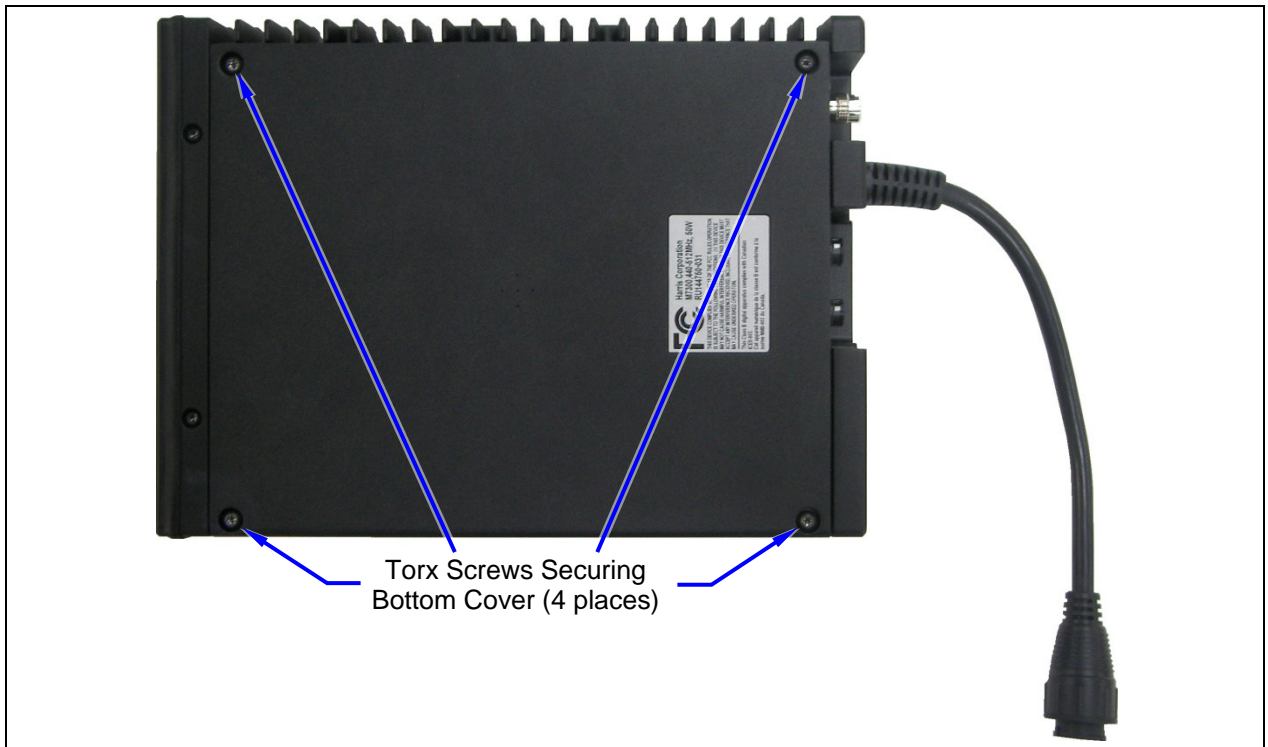
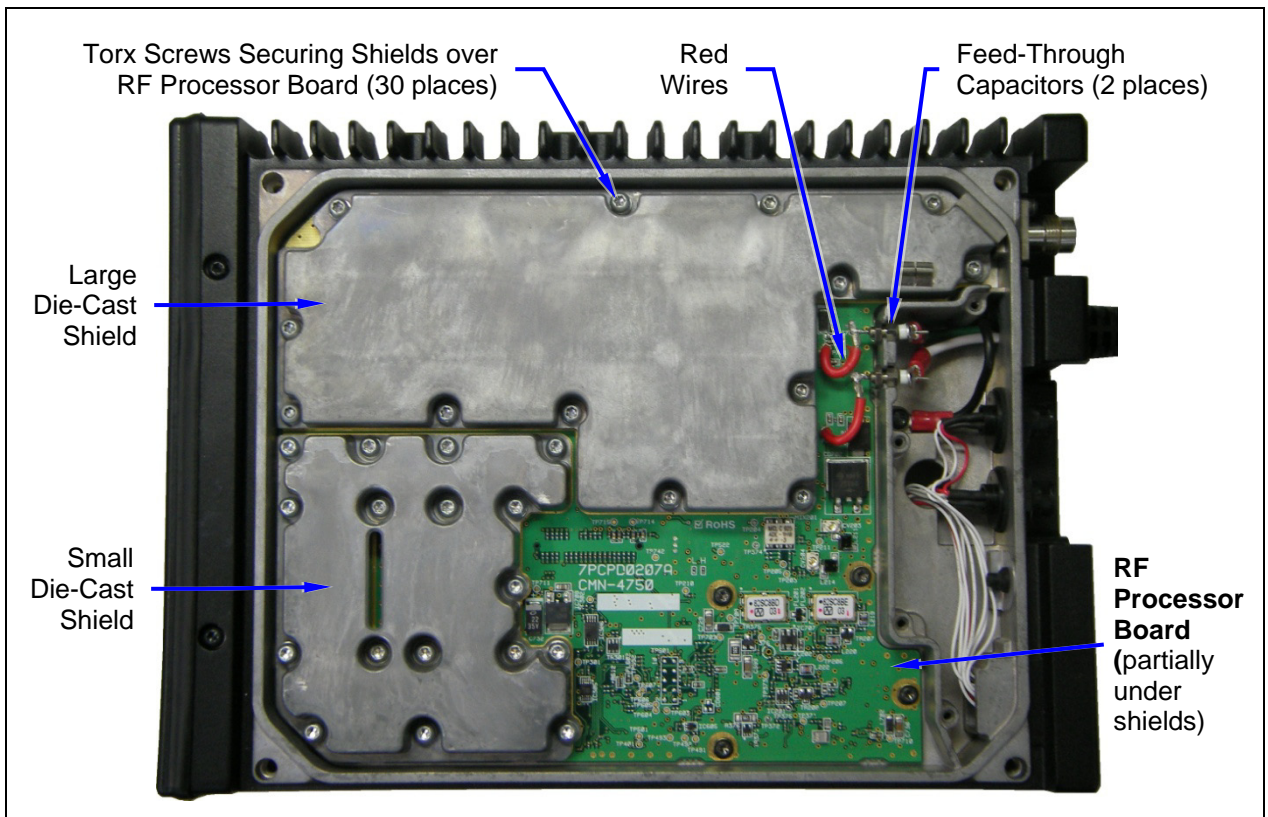
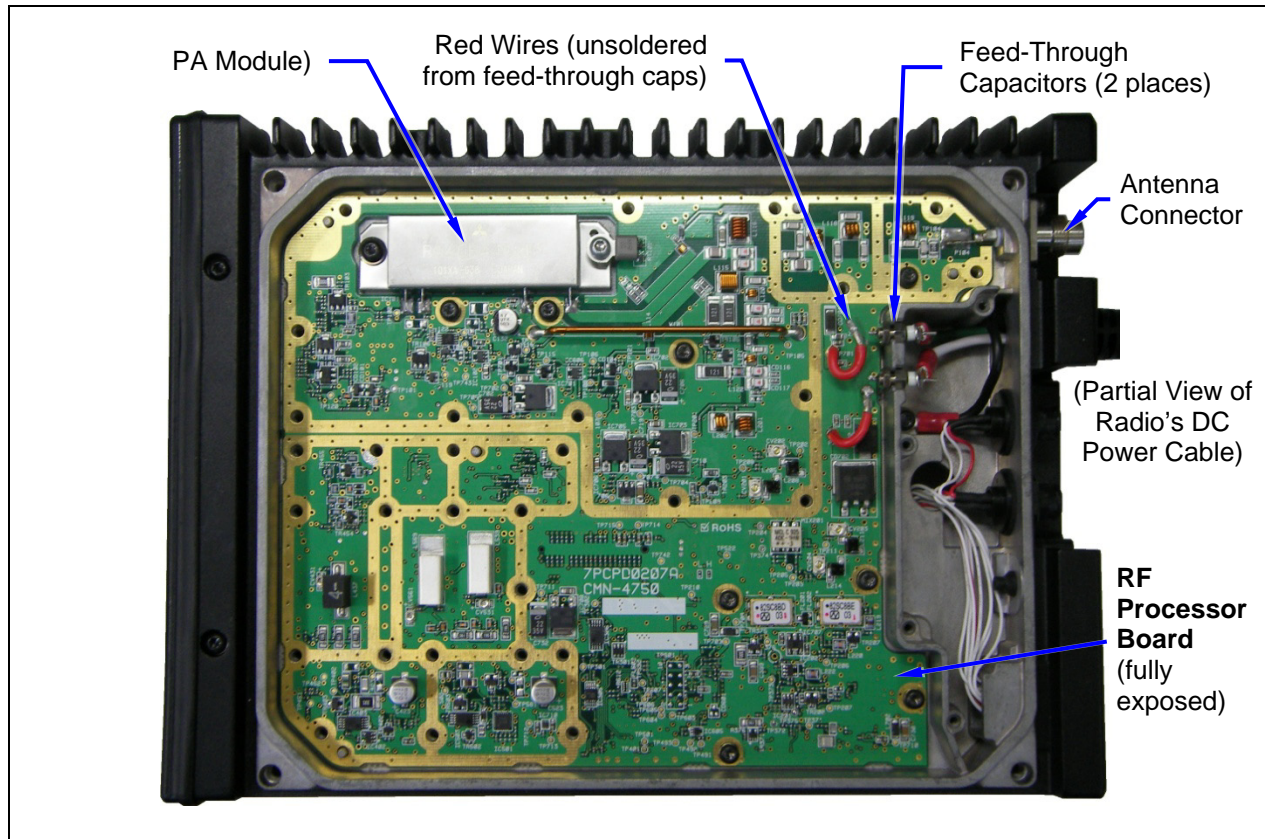

Figure 12-3: Removing the Bottom Cover
Figure 12-4: Removing the RF Processor Board
Figure 12-5: Removing the RF Processor Board
1. Lay the radio on a flat ESD-safe surface, in a bottom-up position. See Figure 12-3.
2. Using a T15 Torx screwdriver, loosen the four (4) captive screws securing the bottom cover to the radio. These are captive-type screws, so complete removal from the cover is not required.
4. Near the rear of the chassis, carefully unsolder the two (2) red wires from the two feed-through capacitors. See Figure 12-5. These two wires are soldered to pads P701 (the "IGNITION" switched power DC input) and P702 (the "A+" main power DC input) of the PK Board.
5. Using a T10 Torx screwdriver, loosen and remove the thirty (30) screws securing the two (2) die-cast shields.
6. Start but do not tighten eight (8) **10-millimeter-long** T10 Torx-head screws into the threaded holes of the chassis. For the locations of these holes, refer to Figure 12-5 (i.e., screws are shown installed in the figure). Be sure to use the correct screws, as screws that are too long will damage the PK Board in the opposite cavity of the chassis.
9. Torque these ten (10) screws to 7.4 inch-pounds (8.5 kg/cm).
10. Carefully install the antenna connector into its hole in the rear panel and secure it to the rear panel using two (2) screws. Torque these two screws to 4.3 inch-pounds (5.0 kg/cm).
12. Carefully lay the two (2) die-cast shields into the casting.
13. To secure the shields, first start but do not tighten all thirty (30) **13 millimeter-long** T10 Torx-head screws. Be sure to use the correct screws, as screws that are too long will damage the PK Board in the opposite cavity of the chassis.
14. Torque these thirty (30) screws to 7.4 inch-pounds (8.5 kg/cm).
15. Carefully solder the two red wires to the feed-through capacitors. As illustrated in Figure 12-4, these two wires should not be crossed. The wire soldered pad P701 is the “IGNITION” switched power DC input. The wire soldered to pad P702 is the “A+” main power DC input.
18. Using a T15 bit and torque driver, tighten the cover’s four (4) screws to 10.4 inch-pounds (12 kg/cm). Use an “X” pattern torque pattern sequence.